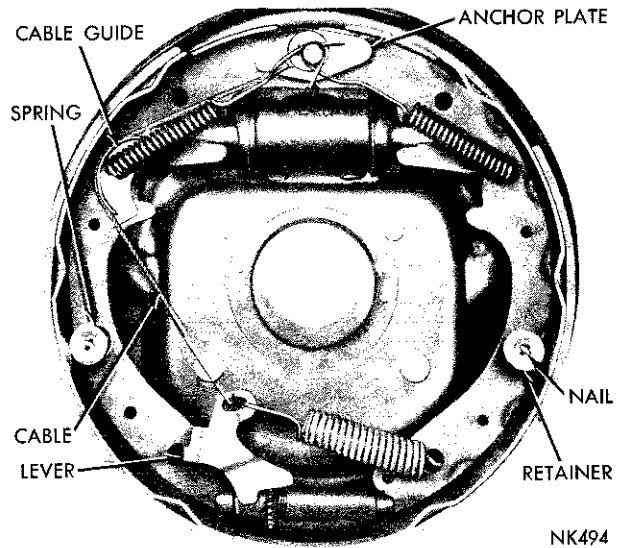

Fig. 5—Removing Brake Shoe Retainer, Spring and Pins
(2) Remove the brake shoe retainer, spring and nails (Fig. 5).
(3) Remove the anchor pin plate.
(4) Remove the primary and secondary brake shoe assembly from the support. Install wheel cylinder clamps, Tool C-416 to hold the pistons in the cylinder.
(5) Overlap the anchor ends of the primary and secondary brake shoes and remove the adjusting star, adjusting lever, adjusting spring, cable and cable guide.